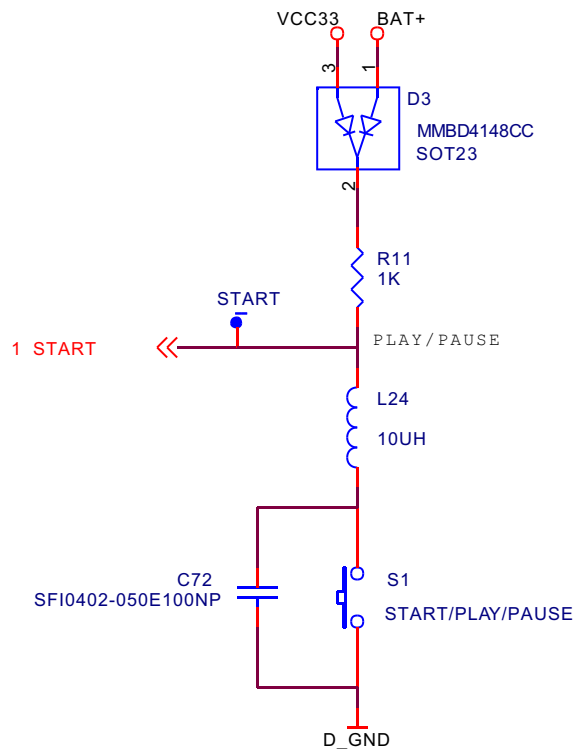

Figure 3.2.8.1 Power on control circuit schematic diagram
1. Power on/off control circuit of X17 (RU) is shown in the figure 3.2.8.1: